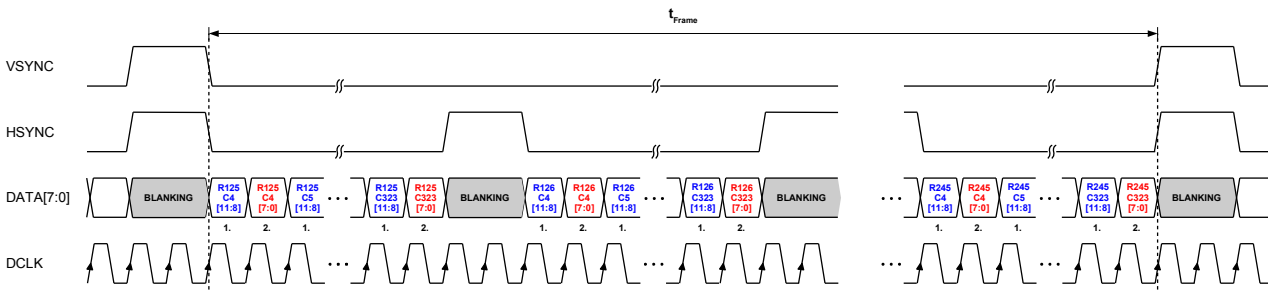

Figure 29: **msb/lsb** split mode
- msb/lb split mode: Transfers 12 bit pixel data with MSByte leading and LSByte trailing with 2x DCLK. Refer to Table 13 and Figure 29.